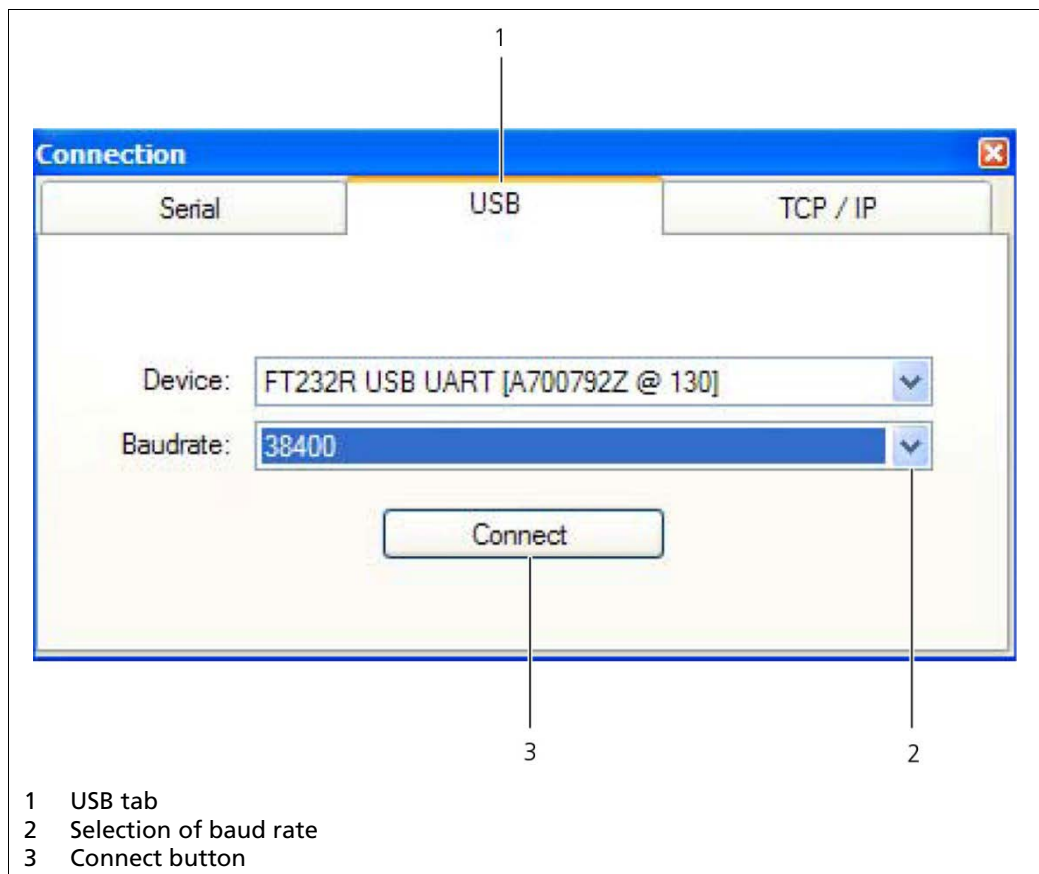

Fig.12 Connection Window "Flash Loader"
7. Click on the tab <USB> (Fig.12, item 1).
8. Select a baud rate of 38400 in the selection menu (Fig.12, item 2).
9. Click on <Connect> (Fig.12, item 3).